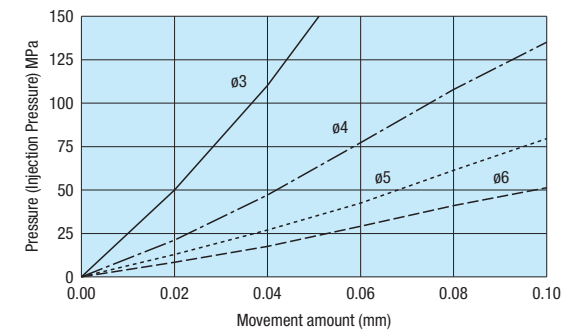

Fig. 8: Injection Pressure on Filter Pin and Filter Surface Movement Amount (GVFCM)
- The filter part may move (sink) due to pressure applied to the pin tip surface. See Fig. 8 for the relationship between pressure and the amount of movement before checking the usage location and performing installation.
- ⚠ The data in Fig. 8 is the reference value (guideline) demonstrated when using GVFCM. Quality and values are not guaranteed.